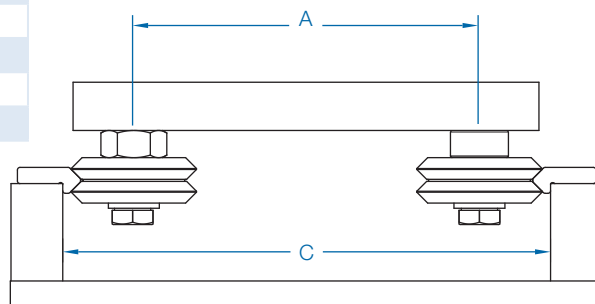

Figure 2 Outboard Mounting
- Outboard Mounting (See Figure 2):  $A = C - X$